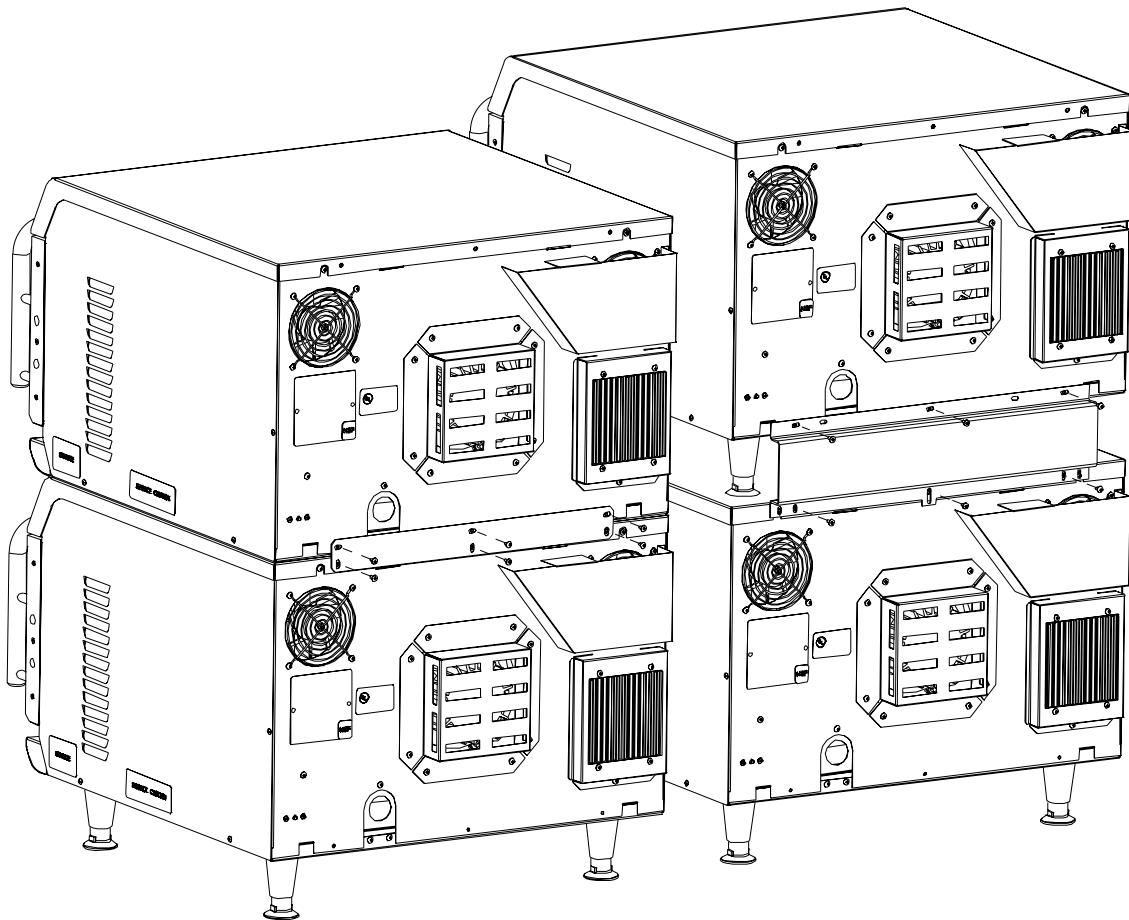

Figure 4: Stacked HhB 2 Ovens (Two Configurations)
4. Attach the stacking bracket to the back of the bottom oven using the existing oven screws as shown in Figure 4.
5. Remove the screws from the top oven, as shown in Figure 4.